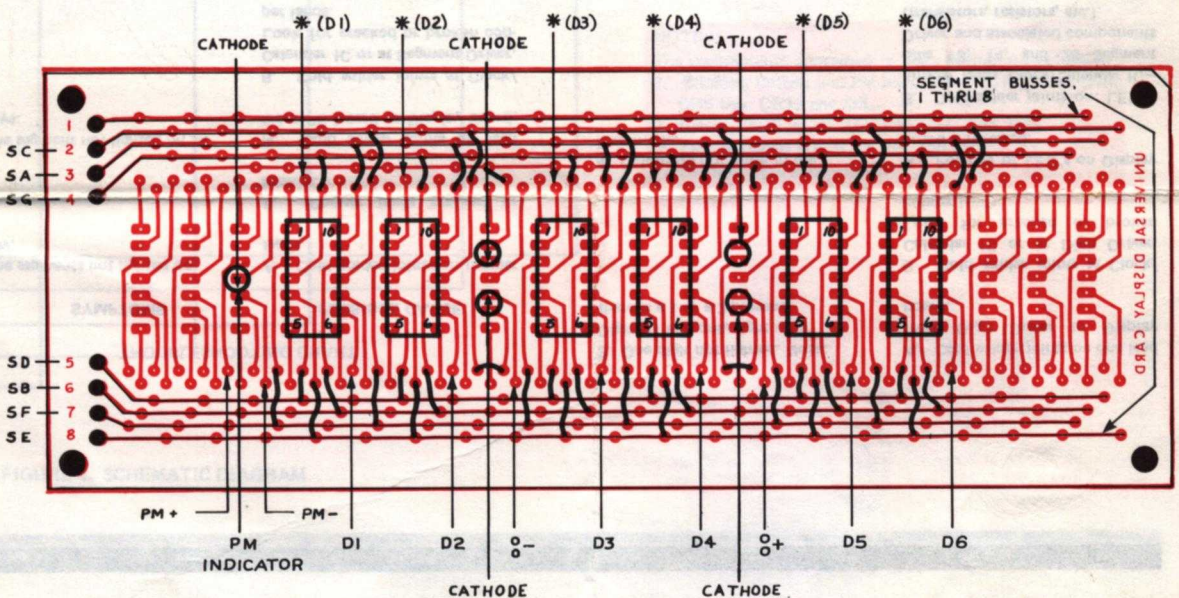

FIGURE 3. UNIVERSAL DISPLAY BOARD
3. Mount four light emitting diodes (LED's). Be sure to install them with the diodes in series (cathodes positioned as shown in Figure 3). They form the colons (:) separating the hours digits from the minutes digits and the minutes digits from the seconds digits.
4. Mount the fifth LED, CR8, as illustrated in Figure 3. This is the PM indicator. The anode end will be connected to the PM+ output from the PC board and the cathode end to the PM— output.
The basic idea is to connect corresponding segments from each digit display together on a common run, or segment buss (see Figure 3). For example, the "A" segments from each digit are connected together via the number 3 (SA) buss; likewise for the "B" segments, number 6 (SB) through the G segments, number 4 (SG). The seven segment busses are then connected with hookup wire to the proper segment driver outputs from the PC board.
1. Connect the jumper wires as shown on the Universal Display Board drawing (Figure 3). The drawing is an X-ray view (ie, looking "through" the board) to aid in proper orientation. You will need approximately 50 pieces of hookup wire; each one no more than 3/4" long. Strip the insulation from these pieces and mount them as shown in Figure 3. These wires mount on the side opposite the printed circuit and pass through the holes provided to connect to the printed circuit.
2. Mount the LED digital displays on the same side as the jumpers. Be sure to position them as shown in Figure 3 (note the location of pin 1)
7. Connect the following display segment busses, D1 through D6, SC, SG, and SA. Note: The digit drivers may be connected to the optional inputs (Figure 3).